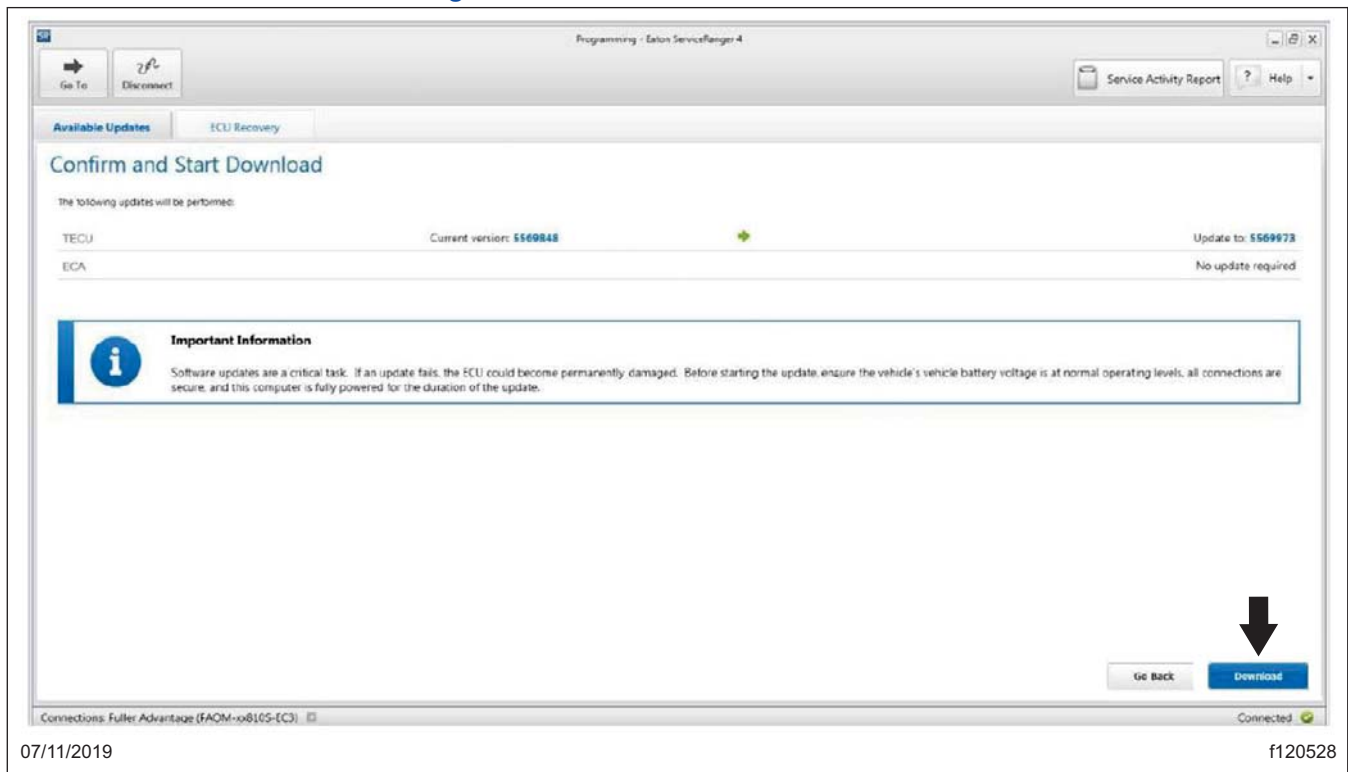

Fig. 9, Clicking Download
4.7 Select "Download." See Fig. 9.